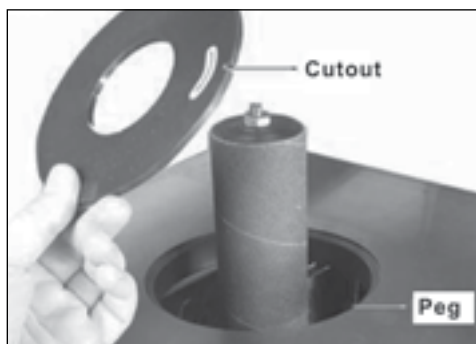

Fig. 6
6.4 Fitting Table Inserts (Fig.6)